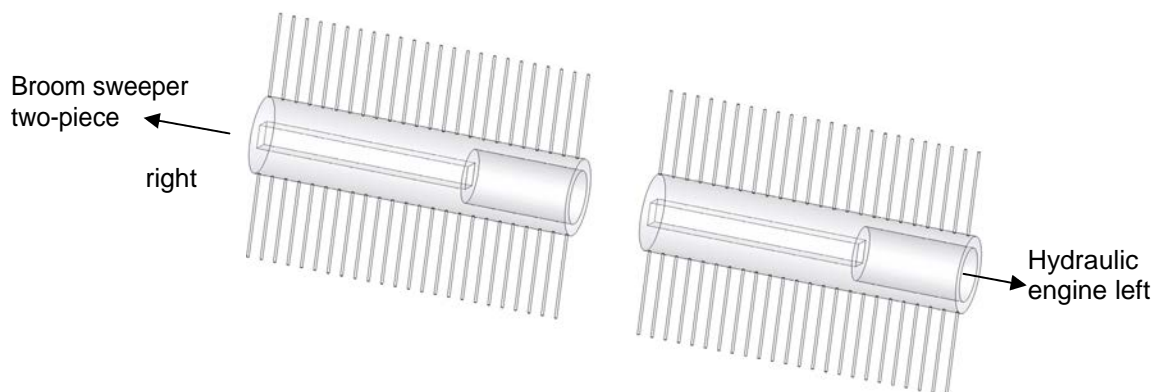

Fig.7a
- In the direction of travel on the right, remove the tension rod (D) with the K-washer (E) from the sweeper's basic housing.
- Loosen the three nuts (A) with the respective spring ring (B) and pull out the drive stub (C) with bearing shells.
- Remove the drive tube (F), insert the sweeper broom [two-piece] (G) into the machine so that the 145 mm round hole to the right points to the hydraulic motor, see Fig.7a.